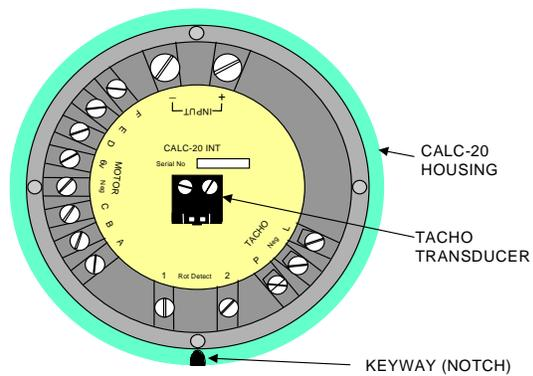

Figure 3-48
- (8) Install the Tacho Transducer on a new CALC-20. Be sure it is oriented as shown in Figure 3-48.